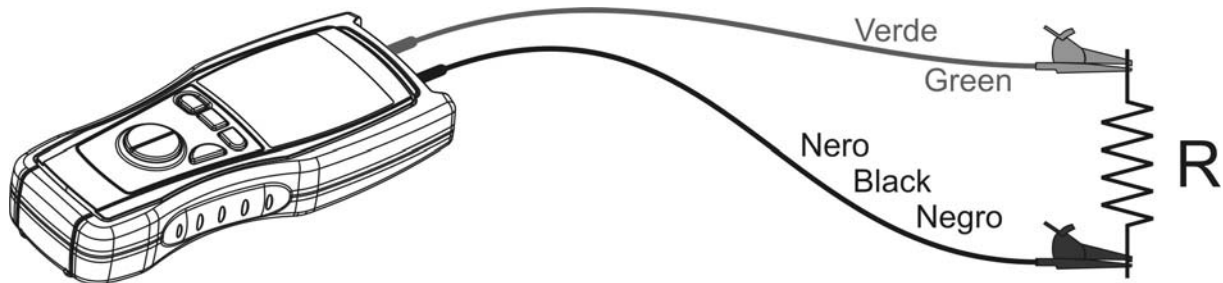

Fig. 4: Connection of the instrument's terminals during Ω test
5. Position the test probes on the desired points of the circuit under test (see Fig. 4)